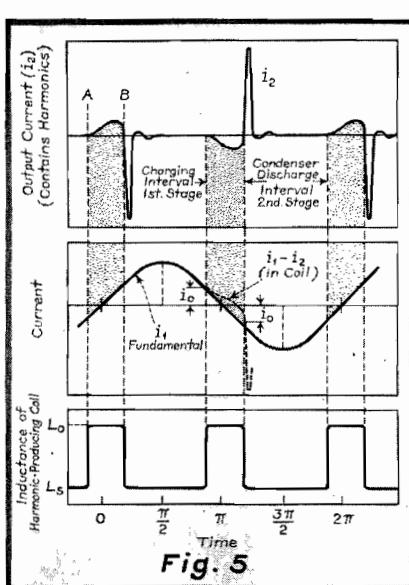

Fig. 5
ferential equation for the current i_2 in the secondary, assuming the current in the primary i_1 to be a pure sine wave. This would be rather premature, however, because of the variable inductance of the coil. An empirical method of analysis proved much better at this point. The circuit shown in Fig. 3 was set up in the laboratory and the actual output current was recorded by cathode-ray oscilloscopes. A careful study of a typical waveform, such as that shown in Fig. 4, will enable us to see how this current is produced. (Since the current reverses itself along the time axis on the oscillograph it will be well to refer also to the approximation of this series of pulses in Fig. 5.) At first glance this wave shape seems to correspond roughly to that of the emf generated in the coil, since the most prominent part of this current wave is a series of alternately positive and negative peaks which occur every half period of the fundamental. A closer inspection shows, however, that these peaks are only a part of each pulse. For reasons which will be evident shortly, each pulse of current may be divided into two distinct stages: (1) the slowly increasing current, from the point "A" to point "B" in Fig. 4; (2) the current rapidly increasing from point "B" in the opposite direction to the conspicuous high peak and then falling to zero, also rapidly, but oscillating as it dies out. Each of these two stages, if separately considered, resembles a familiar transient current. The first stage looks like a current which is charging a condenser through a circuit containing, among other things, a high inductance, while the second stage looks like the discharge of a condenser through a resistance and an inductance, since the oscillating, exponentially
To assist us in reconstructing the process of producing this series of pulses, each of which is thus composed of two recognizable transient currents, we have plotted (in Fig. 5) three variables to the same time scale—the output current i_2 , the fundamental current of sine waveform i_1 , and the inductance of the retard coil L . We have already discussed the emf induced in the coil and can readily refer back to Fig. 2 for it, since the shaded time intervals in that figure are approximately the same as the "shaded" time intervals in Fig. 5. If we disregard the primary circuit and the fundamental current, we can see that the voltage pulses generated during these "shaded" time intervals will cause a current to flow in the secondary circuit which will charge the condenser C .
⁶The curves in Fig. 5 are of course not suitable for exact mathematical analysis of the charging current. For this the reader should refer to Fig. 6 in the article by Peterson, Manley and Wrathall.